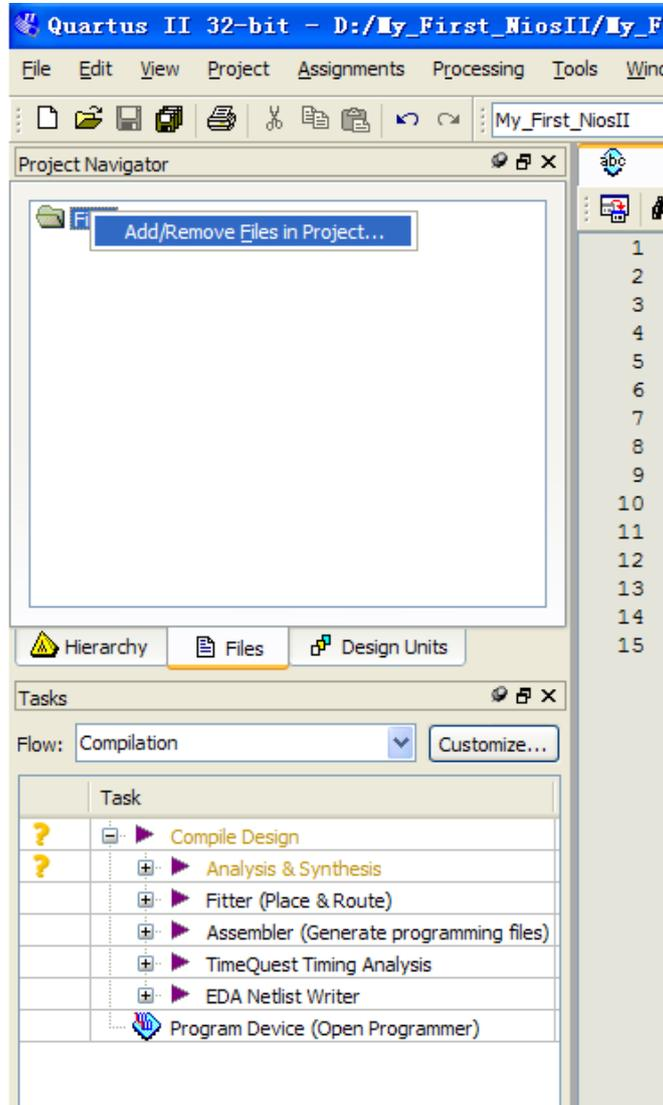
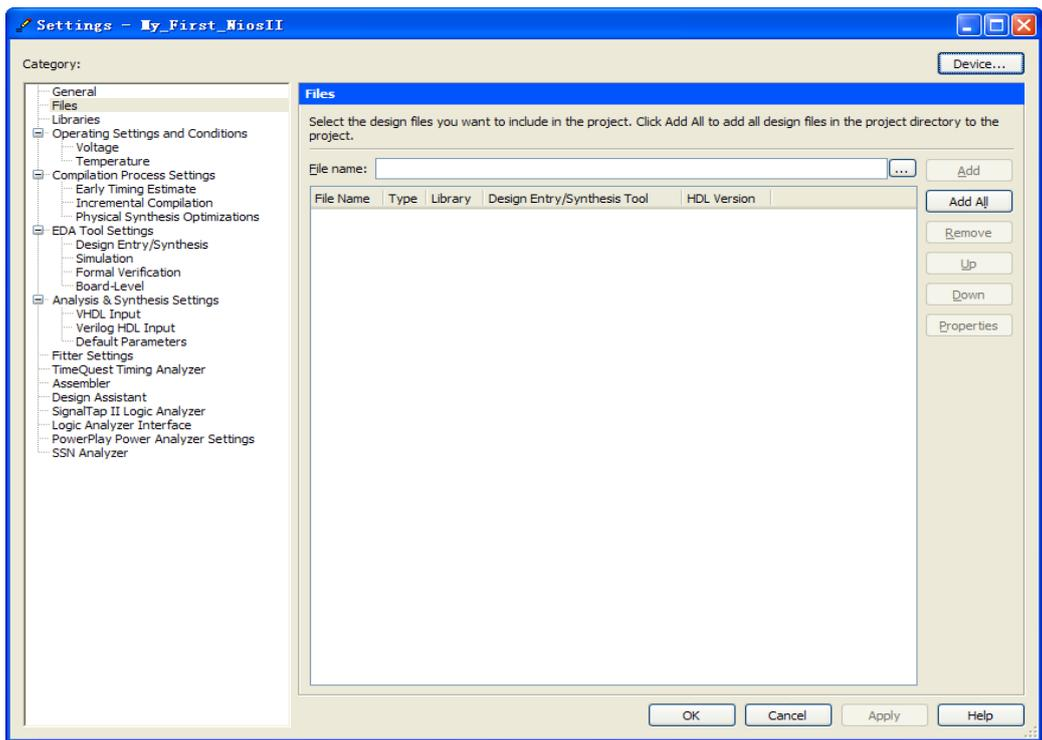
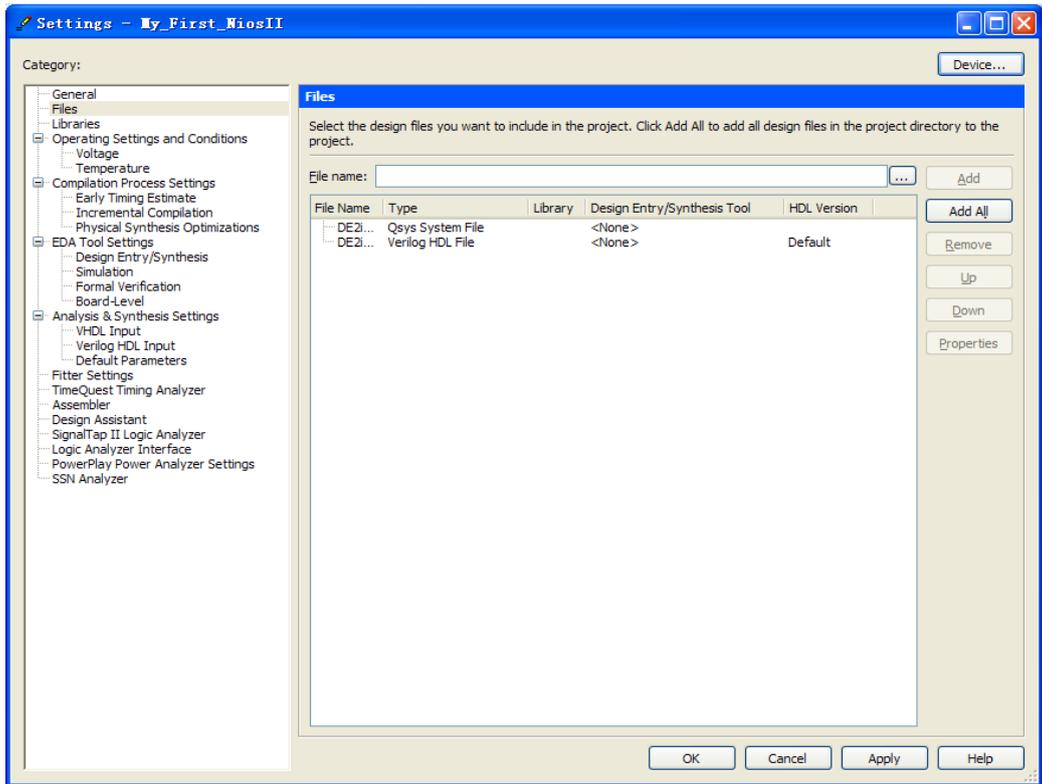
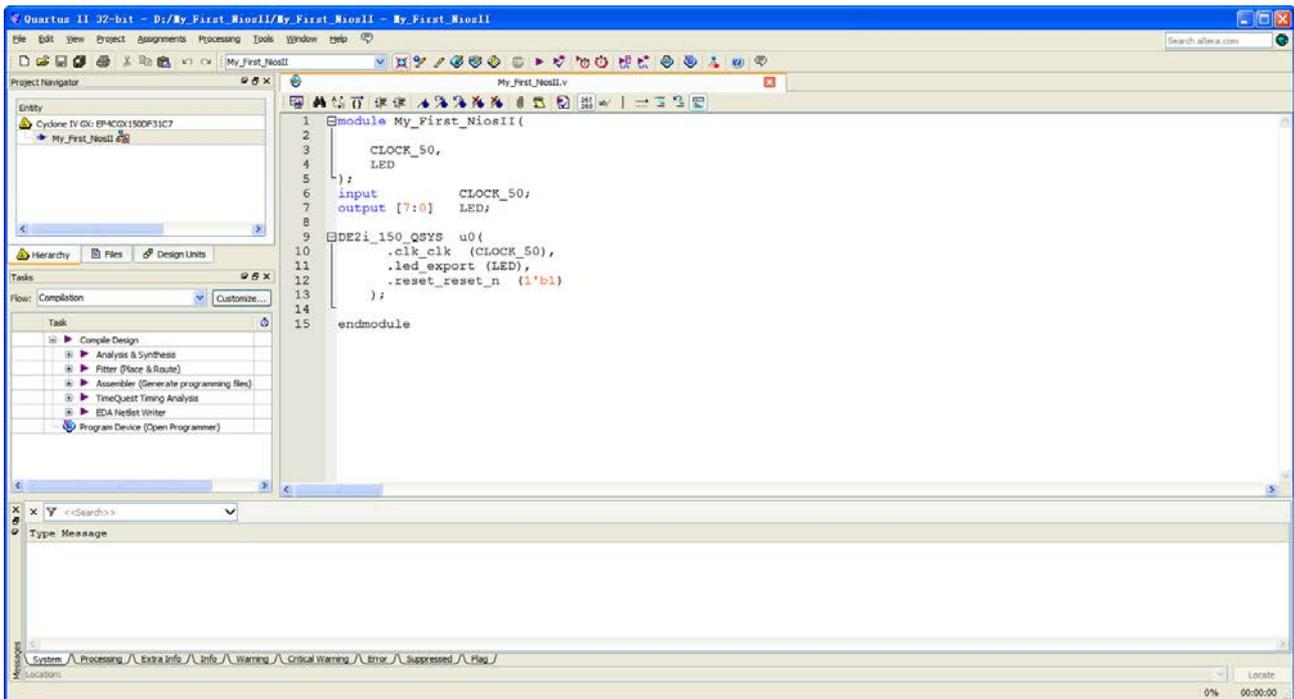

Figure 1-58 Add file
Figure 1-59 Add file
Figure 1-60 Add file
Figure 1-61 Add file completely
36. Add File in project as shown in Figure 1-58, add **DE2i_150_QSYS.qsys** and **DE2i_150_QSYS.v** to the project as shown in Figure 1-59 and Figure 1-60. it is completed as shown in Figure 1-61.